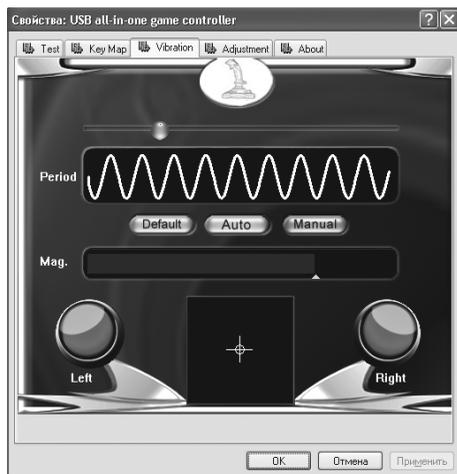

Fig. 7
• Vibration feedback function. Enter Vibration tab (Fig. 7) to test vibration feedback function. Fluctuating and swaying action of the flight joystick corresponds to motor vibration; period (Period) and range (Mag.) of vibration can be adjusted during vibration test. In the center there is a field that shows shifting of joystick handle with vibration. Vibration indicators are on the left and on the right. Shifting to the left and right you activate Left indicator, while shifting up and down you activate Right indicator. Alternatively, you can click Auto for auto-test.